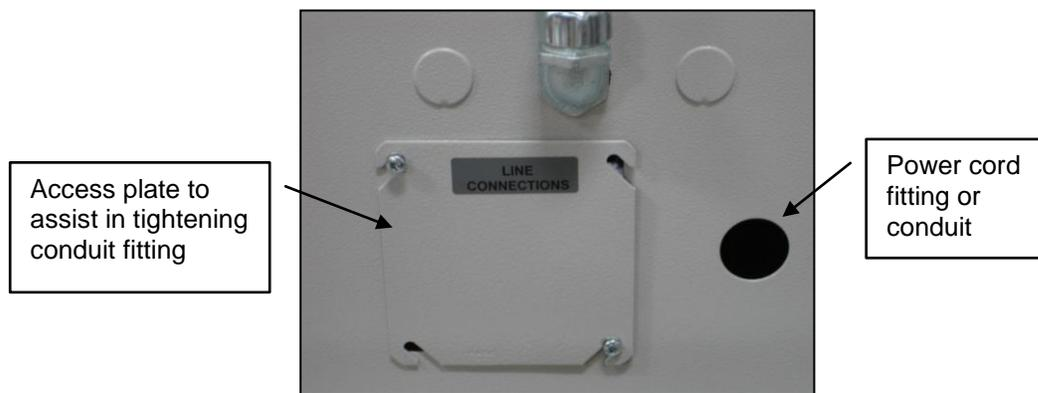

Figure 6. Rear Access Panel for Hard-Wired Connections.
1. Open the knock-out near the rear-access panel (Figure 6).